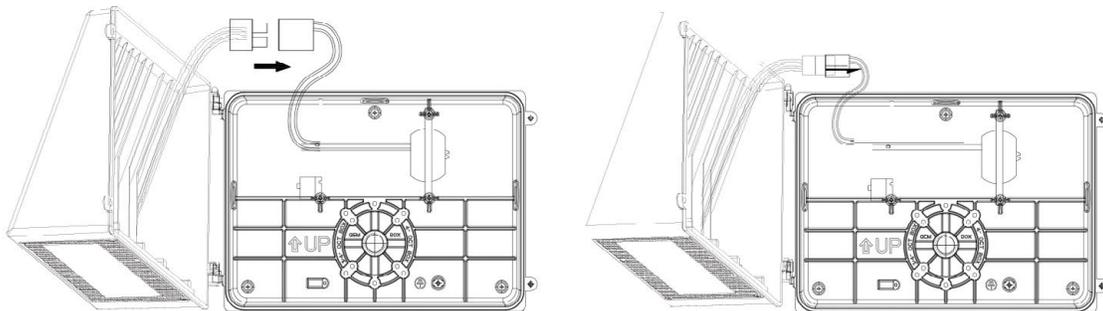

Fig8
**Step 5:** Attach the front housing to the rear housing and connect the male and female connectors (Fig8).